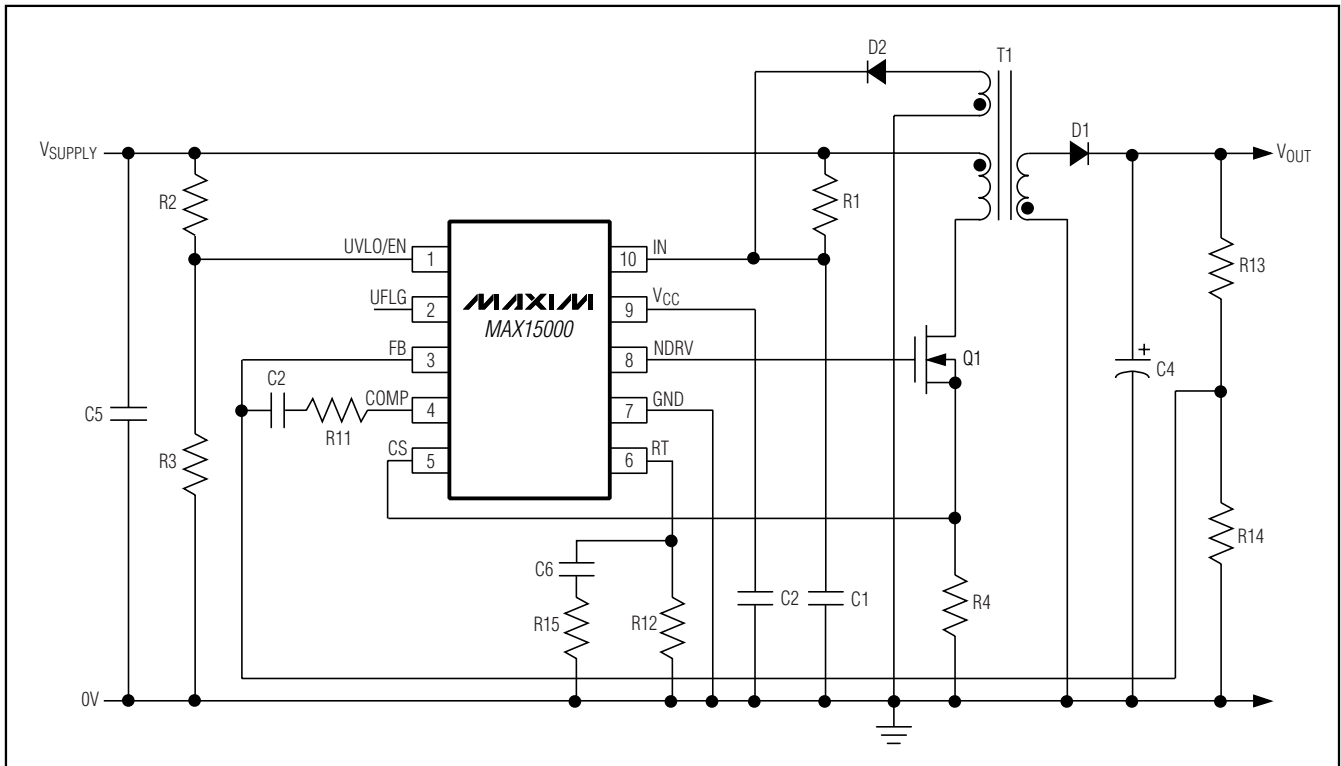
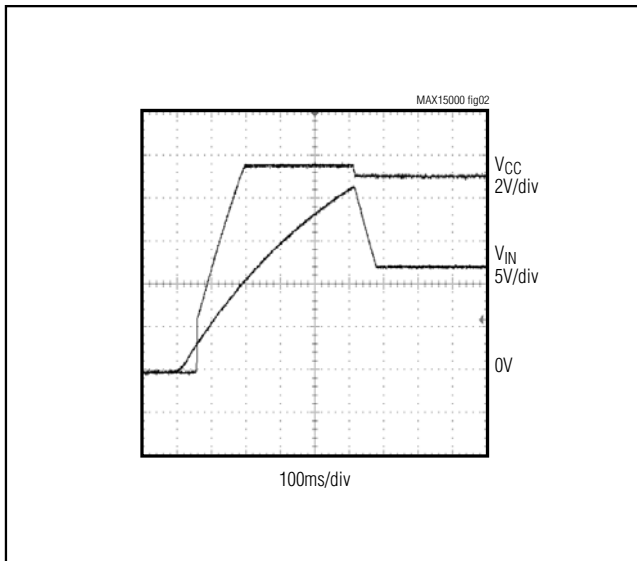

Figure 1. Nonisolated Power Supply with Programmable Input-Supply Start Voltage
Figure 2.  $V_{IN}$  and  $V_{CC}$  During Startup When Using the MAX15000 in Bootstrapped Mode (Figure 1)
- Note 2:** The MAX15000 is intended for use in universal input power supplies. The internal clamp circuit at IN is used to prevent the bootstrap capacitor (C1 in Figure 1) from charging to a voltage beyond the absolute maximum rating of the device when UVLO/EN is low (shutdown mode). Externally limit the maximum current to IN (hence to clamp) to 2mA maximum when UVLO/EN is low. Clamp currents higher than 2mA may result in a clamp voltage higher than 30V, thus exceeding the absolute maximum rating for IN. For the MAX15001, do not exceed the 24V maximum operating voltage of the device.
*Characteristics* table). The input is clamped when the devices are started with a bleed resistor (R1 in Figure 1) from a high input voltage and the UVLO/EN input is low. The clamp can safely sink up to 2mA current.
Power supplies designed with the MAX15000 use a high-value startup resistor R1 that charges a reservoir capacitor C1 (see Figure 1). During this initial period, while the voltage is less than the internal bootstrap UVLO threshold, the device typically consumes only 50µA of quiescent current. This low startup current and the large bootstrap UVLO hysteresis help to minimize the power dissipation across R1 even at the high end of the universal AC input voltage (265VAC).
Use this UVLO/EN input to program the input-supply start voltage. For example, a reasonable start voltage for a 36V to 72V telecom range is usually 34V. Calculate the resistor-divider values, R2 and R3 (see Figure 1) by using the following formulas:
For the MAX15000, the voltage at IN is normally derived from a tertiary winding of the transformer. However, at startup there is no energy being delivered through the transformer, hence, a special bootstrap sequence is required. Figure 2 shows the voltages at IN and  $V_{CC}$  during startup. Initially, both  $V_{IN}$  and  $V_{CC}$  are 0V. After the line voltage is applied, C1 charges through the startup resistor, R1, to an intermediate voltage. At this point, the internal regulator begins charging C2 (see Figure 1). Only 50 $\mu$ A of the current supplied through R1 is used by the MAX15000, the remaining input current charges C1 and C2. The charging of C2 stops when the  $V_{CC}$  voltage reaches approximately 9.5V, while the voltage across C1 continues rising until it reaches the wake-up level of 21.6V. Once  $V_{IN}$  exceeds the bootstrap UVLO threshold, NDRV begins switching the MOSFET and transfers energy to the secondary and tertiary outputs. If the voltage on the tertiary output builds to higher than 9.74V (the bootstrap UVLO lower
The MAX15000A/MAX15001A and MAX15000B/MAX15001B have programmable output switching frequencies from 25kHz to 625kHz and 12.5kHz to 625kHz, respectively. Use the following formulas to determine the appropriate value of the resistor  $R_{12}$  (see Figure 1) needed to generate the desired output switching frequency ( $f_{sw}$ ) at the NDRV output:
where  $R_{12}$  is the resistor connected from  $R_T$  to GND (see Figure 1).
Connect an RC network in parallel with  $R_{12}$  as shown in Figure 1. The RC network should consist of a 100nF capacitor  $C_6$  (for stability) in series with resistor  $R_{15}$  which serves to further minimize jitter. Use the following formula to determine the value of  $R_{15}$ :
The MAX15000/MAX15001 include an internal error amplifier to regulate the output voltage in the case of a nonisolated power supply (see Figure 1). For the circuit in Figure 1, calculate the output voltage using the following equation:
The current-sense resistor (R4 in Figure 1), connected between the source of the MOSFET and ground, sets the current limit. The current-limit comparator has a voltage trip level ( $V_{CS}$ ) of 1V. Use the following equation to calculate the value of R4:
The bypass capacitor at IN, C1, supplies current immediately after the MAX15000 wakes up (see Figure 1). The size of C1 and the connection configuration of the tertiary winding determine the number of cycles available for startup. Large values of C1 increase the startup time but also supply gate charge for more cycles during initial startup. If the value of C1 is too small,  $V_{IN}$  drops below 9.74V because NDRV does not have enough time to switch and build up sufficient voltage across the tertiary output which powers the device. The device goes back into UVLO and does not start. Use a low-leakage capacitor for C1 and C2.